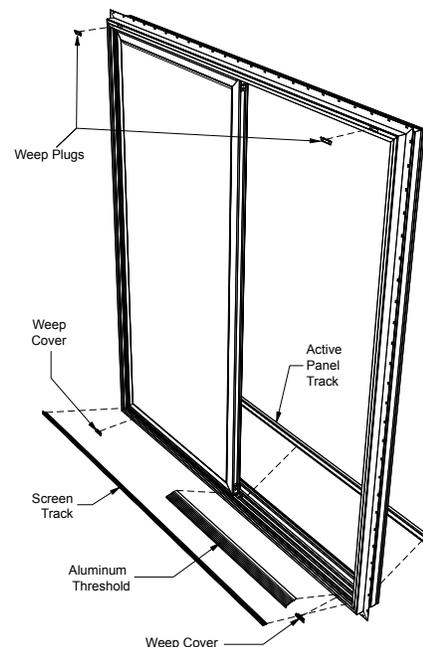

Figure 10 — Reversible Components
2. Remove the following components from the door and place to the side (**Figure 10**):